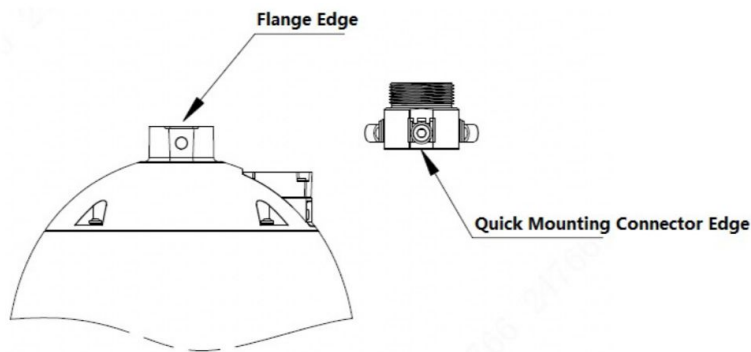

Figure 2-2
**Step 3** Align the flange edge with that of the quick mounting connector; push the PTZ into the quick mounting connector, as shown in Figure 2-2.